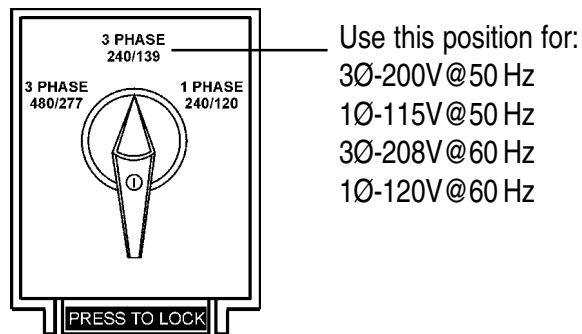

Figure 25. Voltage Selector Switch 240/139V Three-Phase Position
1. Place the voltage selector switch in the 3Ø 240/139 position as shown in Figure 25.